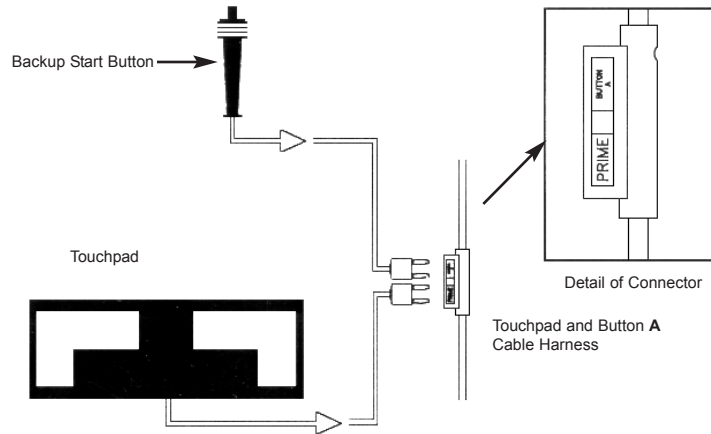

Figure 2-B Touchpad/1-Button Backup Finish
- 4) Connect the touchpad and button A cable harness or in-deck wiring system cable to the primary input connector on the I/O panel of your System 5. Figure 2-E shows a complete pad finish and one-button back-up system.